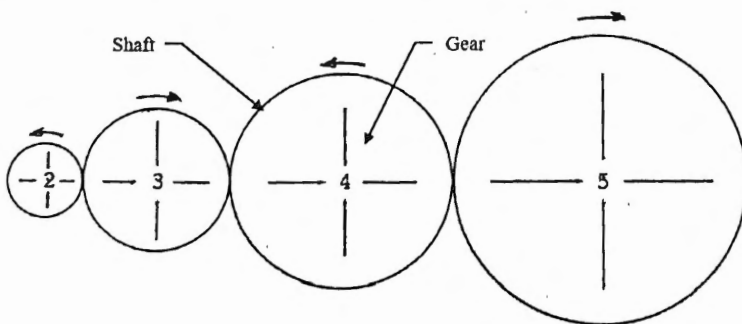

Figure 1
- xii. Figure 1 below shows a simple gear train with application in automobile manual transmission